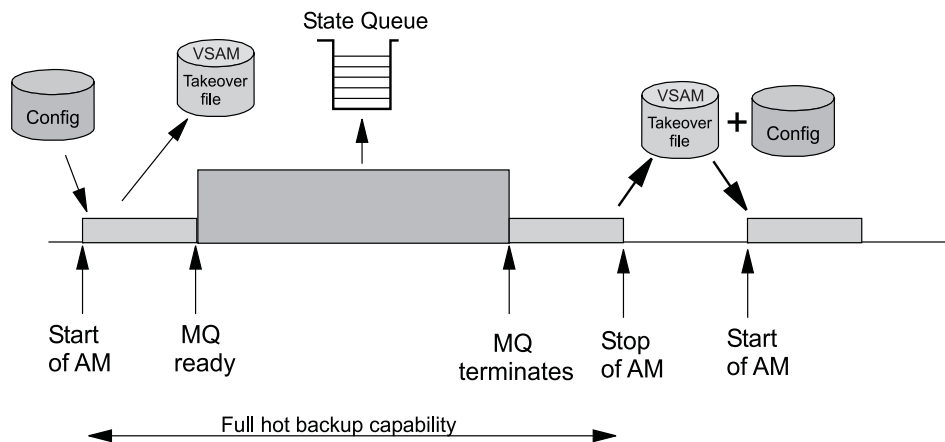

Figure 5. Automating MQSeries with SA z/OS
Figure 5 on page 50 shows the timeline for the MQSeries solution when MQSeries is automated by SA z/OS.
2. If the PAM or its system fail during the startup phase, an SAM becomes the new PAM. The new PAM reads the actual state of the automatable resources from the takeover file. (Note that this is not represented in Figure 5.)
4. If the PAM or its system fail while MQSeries is running, an SAM becomes the new PAM. The new PAM uses the information in the shared MQSeries queues. (Note that this is not represented in Figure 5.)
- If there are any SAMs, one of these becomes the new PAM. (Note that this is not represented in Figure 5.)